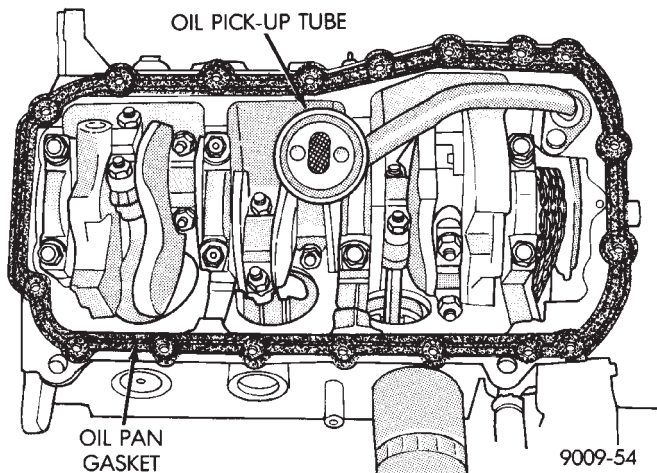

Fig. 4 Oil Pan Gasket Installation
- (3) Use a new pan gasket (Fig. 4).
- (4) Install pan and tighten screws to 23 N•m (200 in. lb.).
- (5) Lower vehicle and install oil dipstick.
- (6) Connect negative battery cable.
- (7) Fill crankcase with oil to proper level.